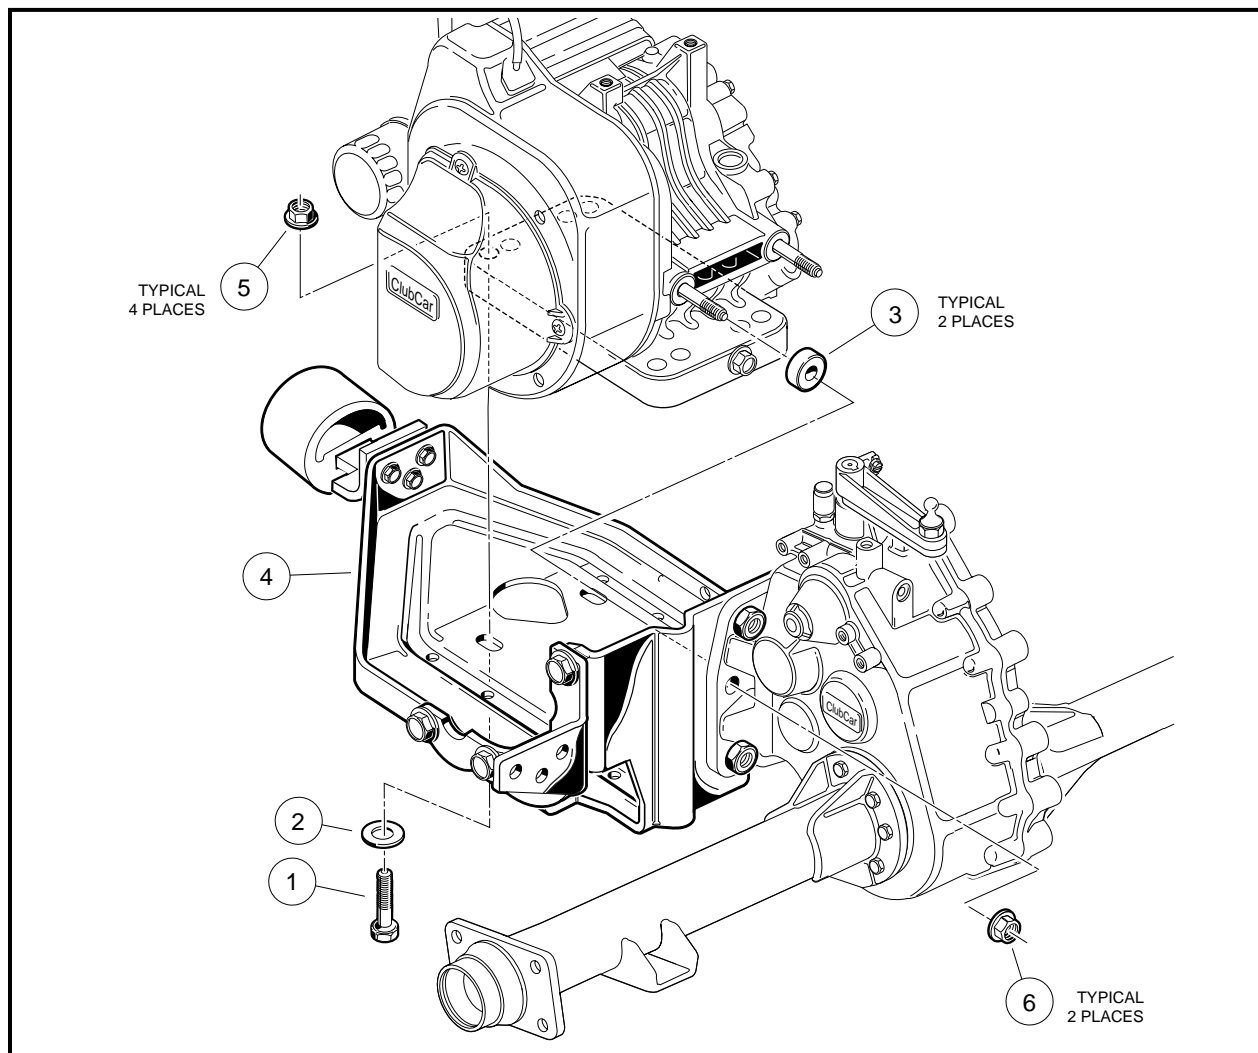

Figure 13-48 Engine Mounting Plate
6. Remove engine mounting hardware (Items 1, 2, 5 and 6) **(Figure 13-48, Page 13-25)**.